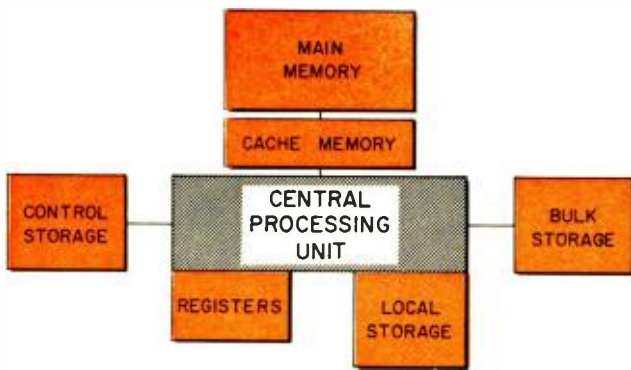

Fig. 1. Various memory functions or functions that are associated with the central processing unit of computer.
2. *Cache Storage.* Cache or buffer storage, when used in a computer system, is interposed between the main memory and the CPU (Fig. 1). Although smaller in capacity than main memory, cache storage is usually ten to twenty times faster than main memory.